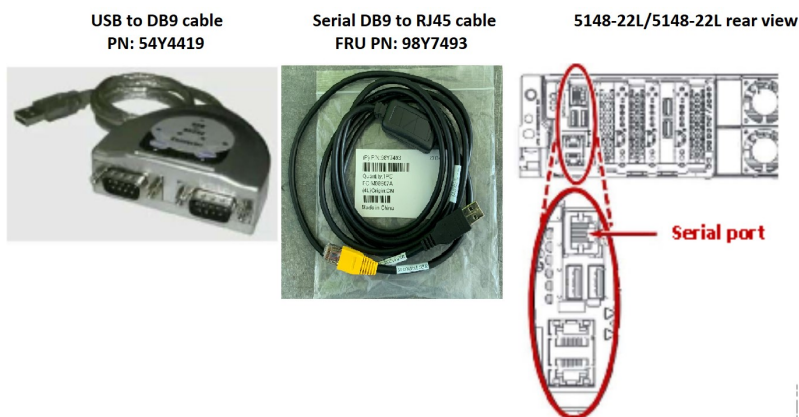

Figure 34. Connecting a laptop to the serial port in the EMS node
- The USB to RJ45 console cable shown in the Figure 34 on page 63 works for Linux and Windows laptops.